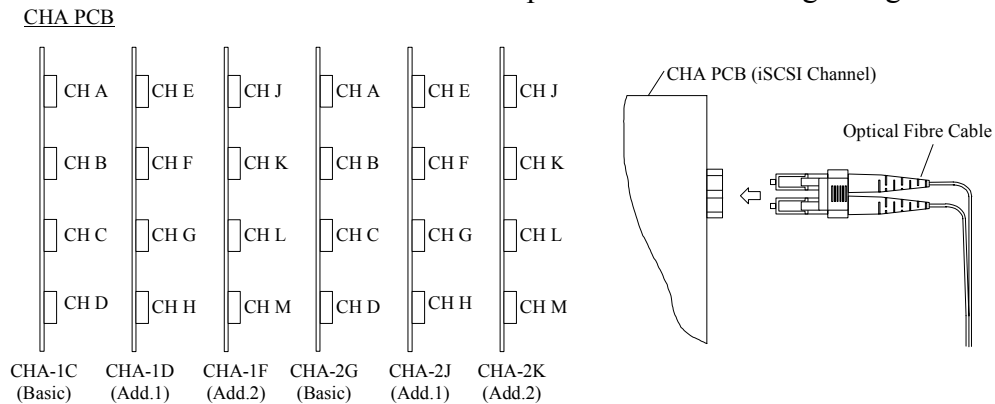

Fig. 3.6.6-4 Connection of Optical Fiber Cable
- Fix the cable to base and attach the cable clamp and bracket referring to Fig. 3.6.6-3.